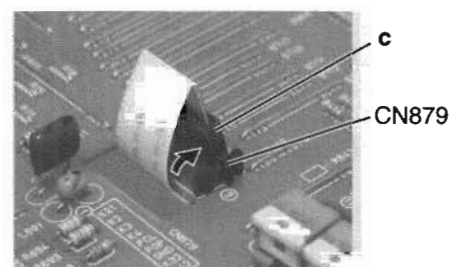

Fig.15
2. Disconnect the card wire from connector CN879 on the main board (Before pulling out the card wire, stand the part **c** of CN879 as shown in Fig.15).